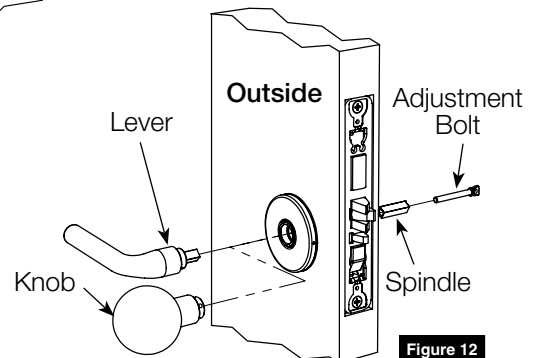

Figure 12
7. Install outside lever or knob by inserting adjustment bolt on opposite side of door. Tighten bolt finger-tight and then loosen a few turns. (Figure 12)